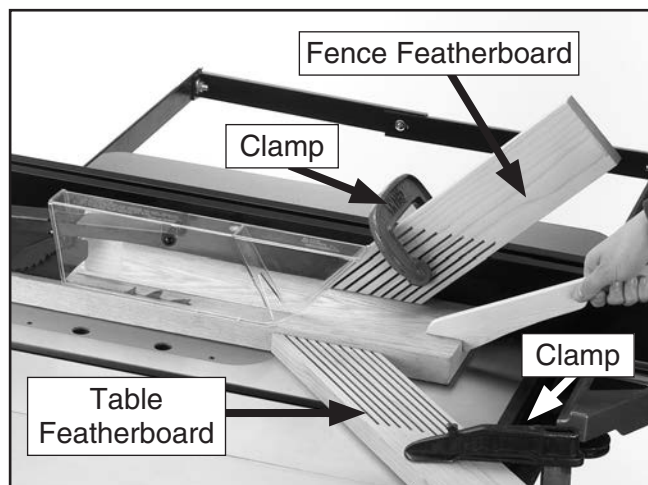

Figure 94. Example of featherboards secured with clamps.
3. Place a featherboard on the table away from the blade so all fingers point forward and contact the workpiece (see **Figure 94**).
6. Mount a second featherboard to the fence with another clamp (see **Figure 94**), then repeat **Step 5** to ensure it is secure.